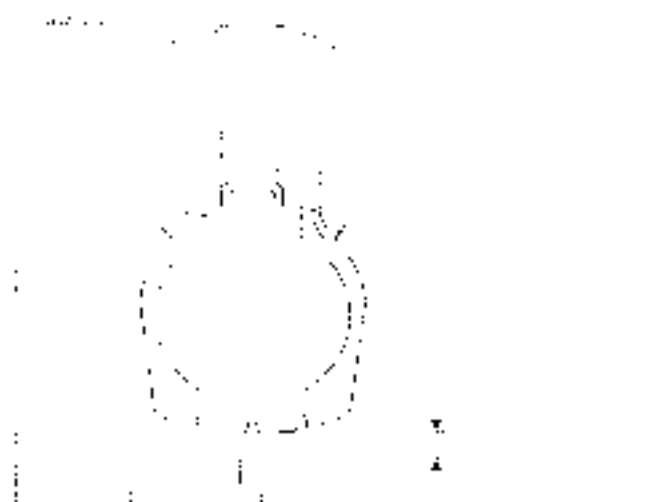

Figure 2-59. Radial Tire Runout
1. See Figure 2-59. Check runout by turning wheel on axle, measuring amount of radial displacement from a fixed point near the tire.